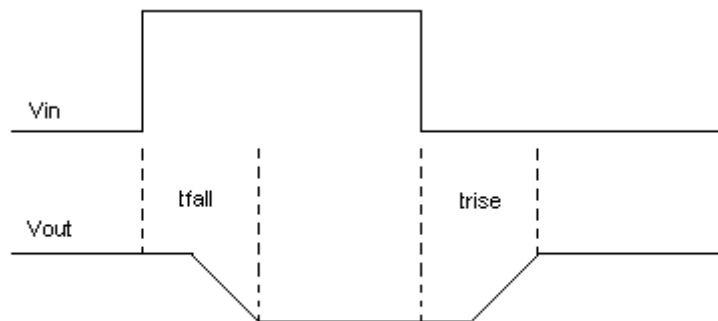

Figure 3 Definitions for t_{fall} and t_{rise}
- 2) As you have previously done in the first lab, apply a convenient rectangular voltage pulse at the input and simulate the ECL buffer-inverter to find the values of for t_{fall} , t_{rise} (Check Figure 3 for the definitions of t_{fall} , t_{rise}).